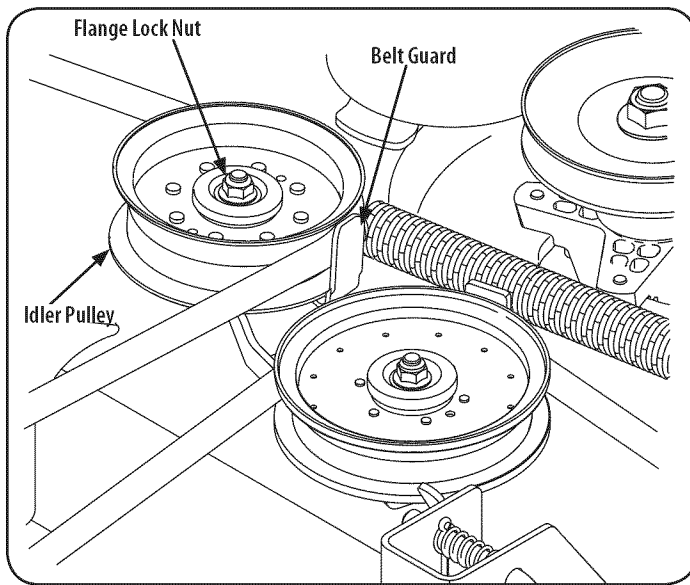

Figure 37
- Loosen, but do not remove, the movable idler pulley and belt guard by only loosening the flange lock nut securing the idler pulley to the idler arm. See Figure 37.
- Place the belt around the idler pulleys removed in step 3 with the "V" side facing in. Once in place, reinstall all the hardware and tighten the flange lock nut to secure the assembly. See Figure 37.
- Route the belt as shown in Figure 37 and then reinstall the deck (refer to Deck Installation).